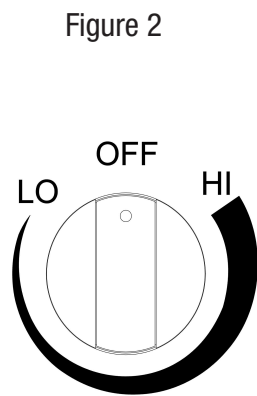

Figure 2
- 1 Make sure control knobs are in the "OFF" position (Figure 2)
- 2 Make sure control knobs are in the "OFF" position (Figure 2)
- 3 All control knobs must be in the "OFF" position (Figure 2)
- 2 Turn all control knobs clockwise to the "OFF" position (Figure 2)